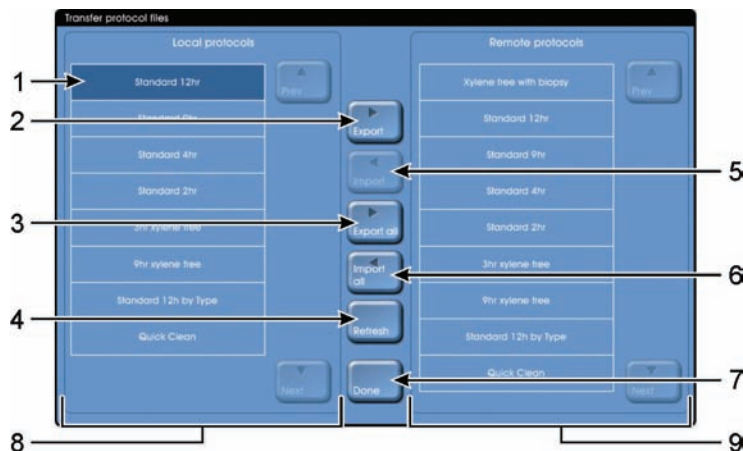
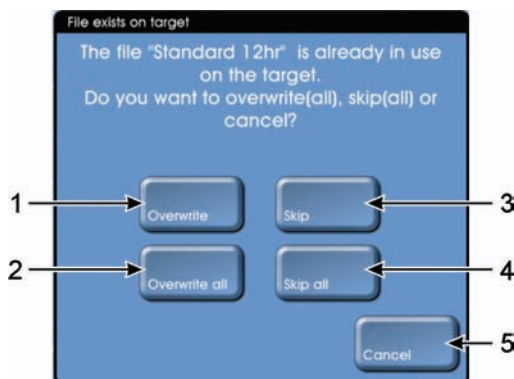

Figure 151: Transfer protocol files screen
Figure 153: "Files exist on target" dialog box
The “Transfer protocol files” screen is shown in Figure 151 and the items are detailed in the table that follows. Use these controls and refer to the detailed instructions presented after the table to transfer protocols to and from the instrument.
4. The "Transfer protocol files" screen will now appear (see Figure 151).
5. If you wish to copy all the protocols on your instrument to the remote device, select the **Export all** button (item 3 in Figure 151).
- (ii) If any of the protocols are already saved on the remote device, the "Files exist on target" dialog box will appear; to continue, select one of the following options (see Figure 153 for item numbers):
- Select the **Overwrite** button to overwrite a single file on the remote device (item 1)
- Select the **Overwrite all** button to overwrite all duplicate files on the remote device (item 2)
- Select the **Skip** button to skip the transfer of a single duplicated file (item 3)
- Select the **Skip all** button skip the transfer of all duplicated files (item 4)
- Select the **Cancel** button to terminate the transfer procedure (item 5).
6. To transfer a single protocol to the remote device, select the protocols' cell in the "local protocols" area (item 8 in Figure 151) then select the **Export** button (item 2 Figure 151).
- (ii) If a protocol of the same name is already saved on the remote device, the "File exists on target" dialog box will appear; to continue, select one of the following options (see Figure 153 for item numbers):
- Select the **Overwrite** button to overwrite the file on the remote device (item 1)
- Select the **Skip** button to skip the transfer (item 3)
7. To transfer all files from the remote device onto your instrument, select the **Import all** button (item 6 in Figure 151).
8. To transfer a single protocol from the remote device onto your instrument, select the protocols' cell in the "Remote protocols" area (item 9 in Figure 151) then select the **Import** button (item 5 in Figure 151).
9. After transferring protocols update the local and remote display areas by selecting the **Refresh** button (item 4 in Figure 151).
10. When you have finished transferring protocol files, select the **Done** button from the transfer control area (item 7 Figure 151).